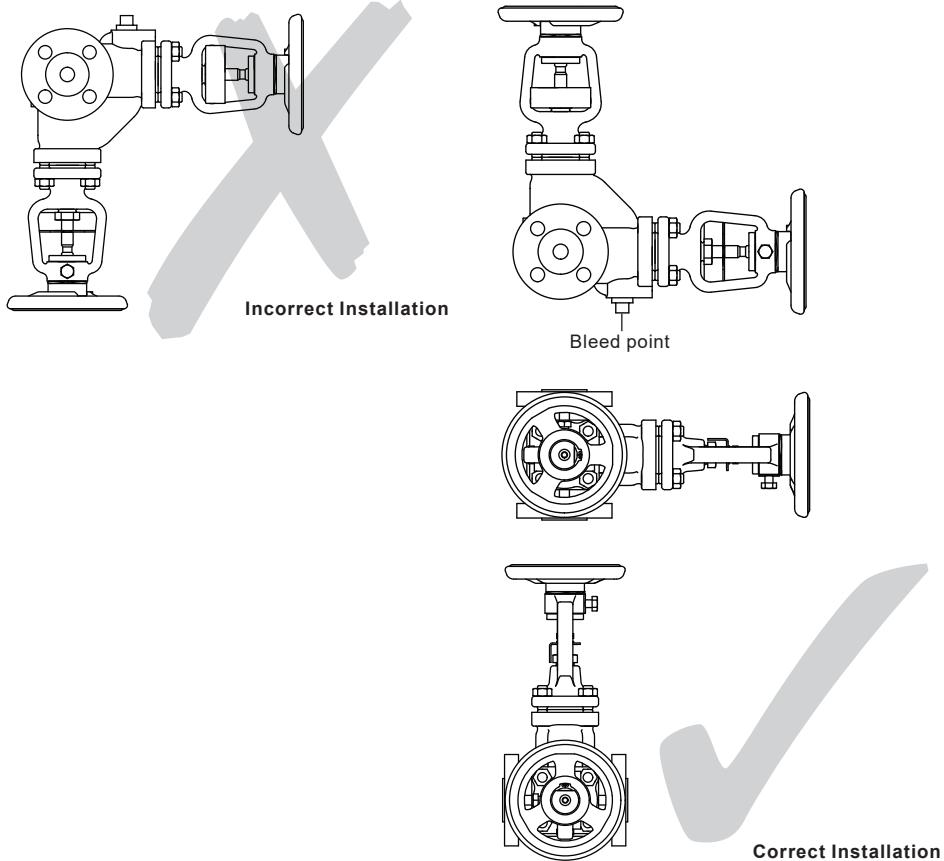

Fig. 2
- 3.3** The valve can be installed in the horizontal or vertical plane. When installed in the horizontal plane the bleed port should ideally be positioned at the bottom (see Figure 2). Isolation of the bleed port should be positioned as close to the valve as possible to avoid back-up of condensate in the isolated bleed line. The bleed port connection must be piped to a safe visible atmospheric place as close to the valve as possible.